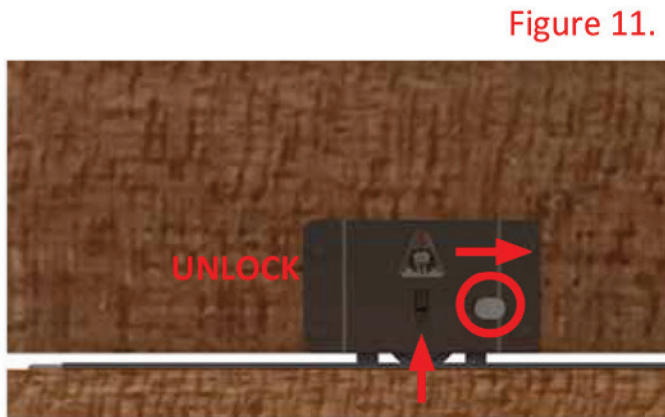

Figure 11.
3. Unlock the roller by pushing up the wheel and sliding the clip outwards, as guided in **Figure 11**.